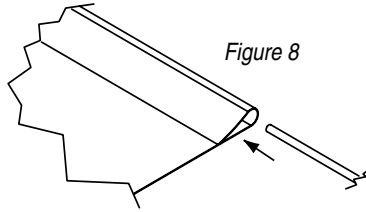
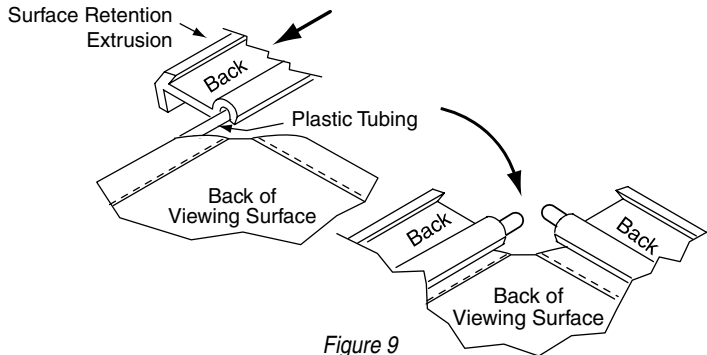

Figure 8
Figure 9
- ① Move frame assembly out of the way, unroll viewing surface and place on smooth/clean surface. (Orient viewing surface so that folded side of hem is visible.)
- ② Insert plastic tubing inside pocket formed by hem on all 4 edges of viewing surface (see Fig. 8).
- ③ Divide surface retention extrusions up so they will be evenly spaced all the way around the screen.
- ④ **Carefully** slide surface retention extrusions (rounded edge visible) along hem and onto surface on all 4 edges of fabric (see Fig. 9).